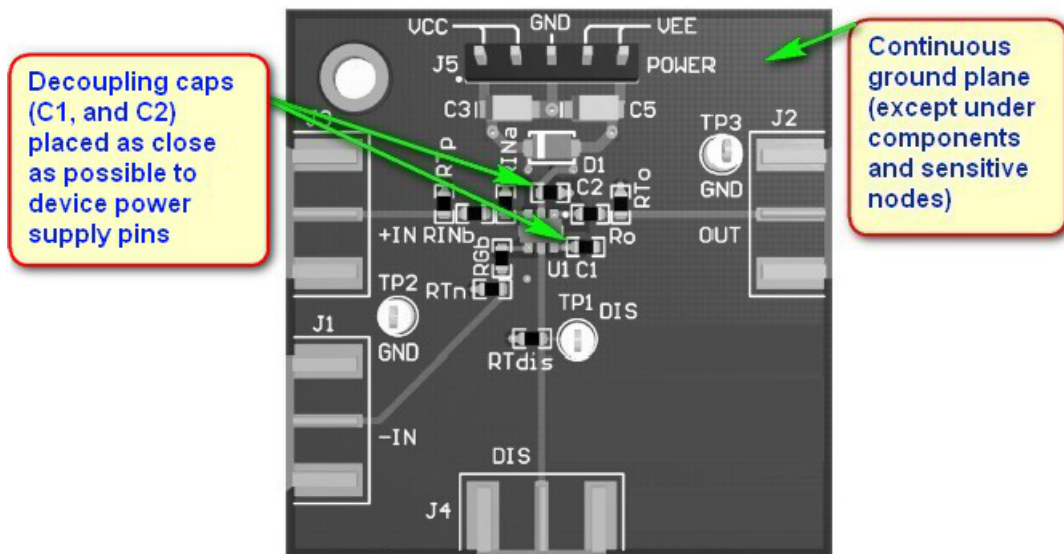

Figure 28. LMH6702 Evaluation Board Layer 1
- Continuous ground planes are preferred for signal routing with matched impedance traces for longer runs. However, open up both ground and power planes around the capacitive sensitive input and output device pins as shown in Figure 28. After the signal is sent into a resistor, parasitic capacitance becomes more of a bandlimiting issue and less of a stability issue.
- Use good, high-frequency decoupling capacitors (0.1 μF) on the ground plane at the device power pins as shown in Figure 28. Higher value capacitors (2.2 μF) are required, but may be placed further from the device power pins and shared among devices. For best high-frequency decoupling, consider X2Y supply-decoupling capacitors that offer a much higher self-resonance frequency over standard capacitors.